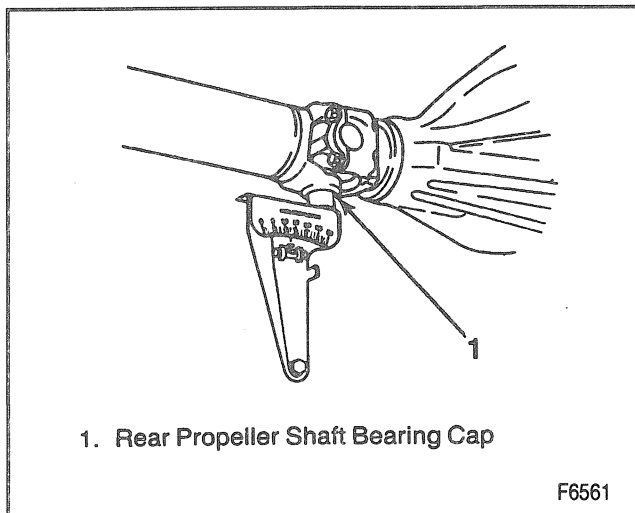

Figure 24—Measuring Rear U-Joint Working Angle
1. Place inclinometer J 23498-A on rear propeller shaft bearing cap (Figure 24). Center the bubble in the sight glass and record the measurement. The bearing cap must be straight up and down and free